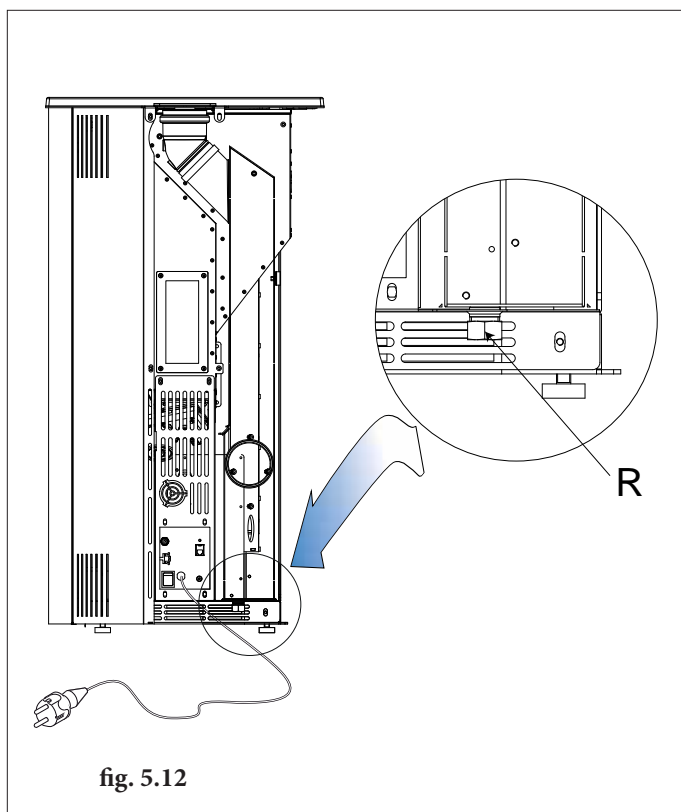

fig. 5.12
- As an additional safety measure, there is a threaded fitting with locking cap designed to connect the condensate drain pipe, if an unlikely event may require such measure (Fig. 5.12).
5.5.2 As an additional safety measure, there is a threaded fitting with locking cap "R" designed to connect the condensate drain pipe, if an unlikely event may require such measure (Fig. 5.12).